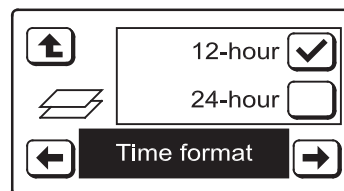

FIG. 73
6. Press the RIGHT (→) button to display the **Time format** screen (See Figure 73).